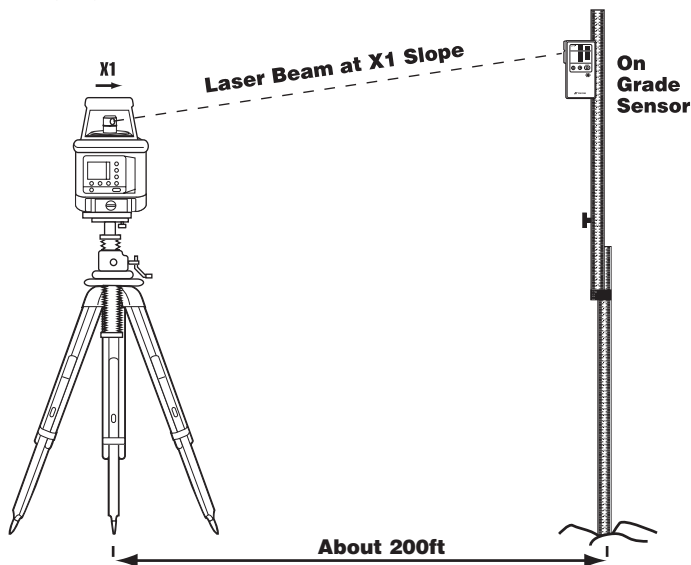

Figure 3-5. Raise Sensor
3. Raise or lower the sensor to get an on-grade signal (a solid tone) (Figure 3-5). Record or mark the position on the grade rod (X1).